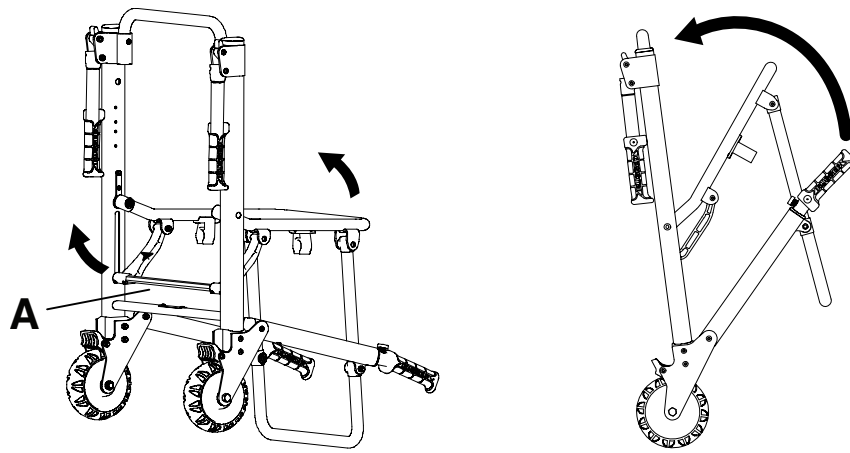

Figure 4 – Folding the chair
4. Pull up on the red lock bar (A) at the rear of the chair (Figure 4).